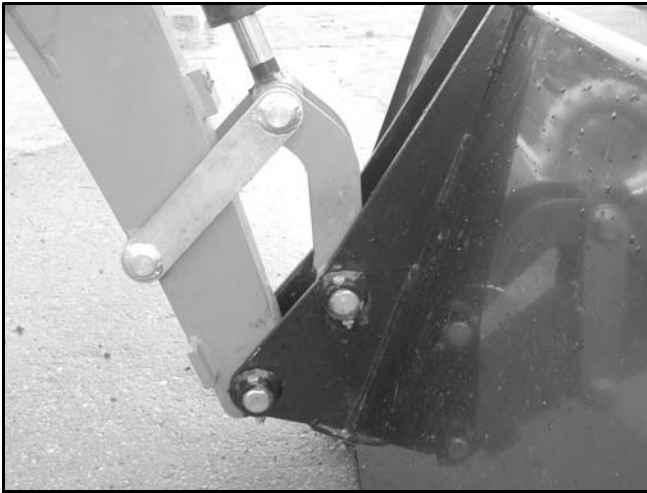

Figure 37. Pin On Bucket Installed (Typical)
3. Extend bucket cylinder and attach bucket links to the upper holes on the bucket using pins and hardware provided. See Figure 37.